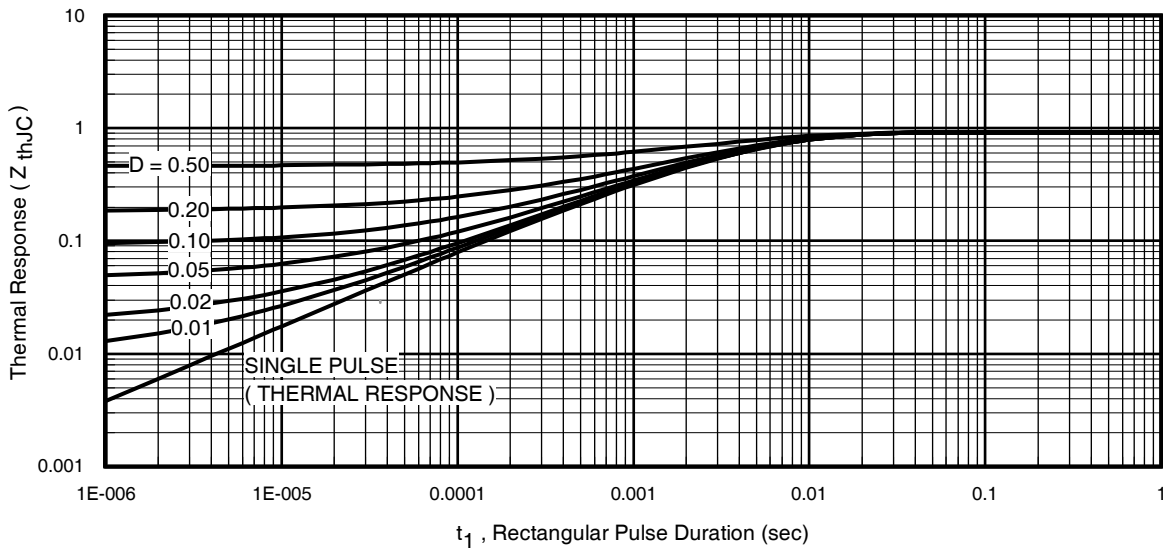

Fig 11. Maximum Effective Transient Thermal Impedance, Junction-to-Case
- ① Repetitive rating; pulse width limited by max. junction temperature. (See fig. 11).
- ② Limited by T_{Jmax} , starting $T_J = 25^\circ\text{C}$, $L = 0.27\text{mH}$, $R_G = 25\Omega$, $I_{AS} = 35A$, $V_{GS} = 10V$. Part not recommended for use above this value.
- ③ $I_{SD} \leq 35A$, $di/dt \leq 380A/\mu s$, $V_{DD} \leq V_{(BR)DSS}$, $T_J \leq 175^\circ\text{C}$.
- ④ Pulse width $\leq 1.0\text{ms}$; duty cycle $\leq 2\%$.
- ⑤ $C_{oss \text{ eff.}}$ is a fixed capacitance that gives the same charging time as C_{oss} while V_{DS} is rising from 0 to 80% V_{DSS} .
$Z_{thJC}(D, t_{av})$ = Transient thermal resistance, see figure 11)